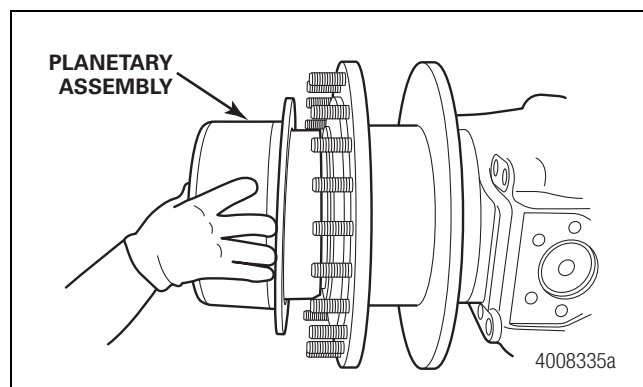

Figure 5.2
1. Use a suitable lifting device to support the planetary assembly. Remove the mounting bolts, and spacer (if equipped). Remove the planetary assembly from the hub. Figure 5.2.